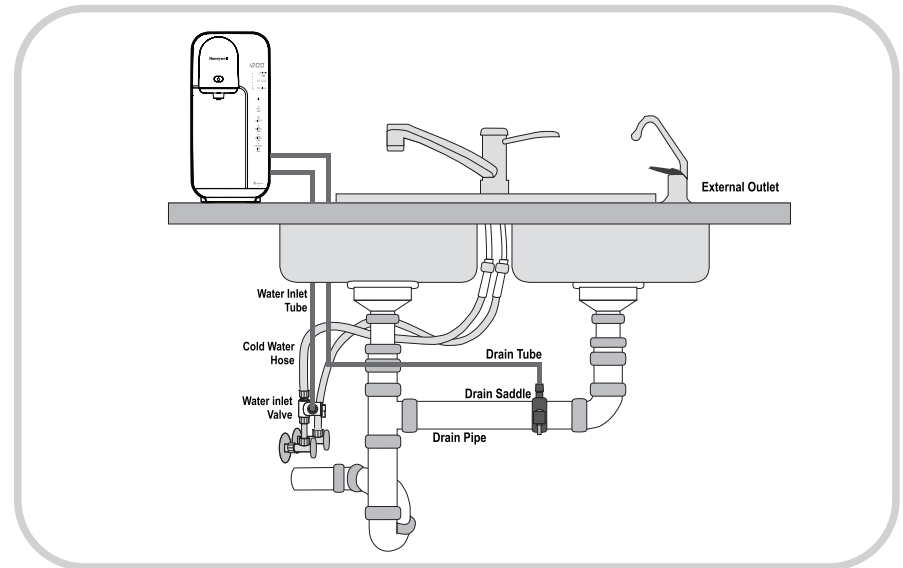
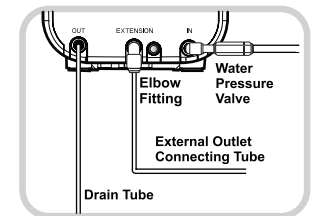
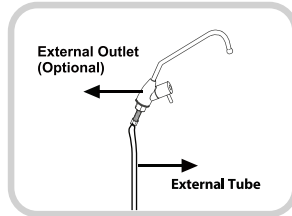

Fig. 4
Fig. 5
Fig. 6
4. Use a drill with a 1/4" Drill Bit to drill a hole on one side of the Drain Pipe and attach the Drain Saddle using a Phillips screwdriver. (Fig. 4).
5. Using a knife or scissors cut a segment of the 1/4" Water Tube long enough to connect the Purifier to the Water Inlet Valve located under the sink. Leave a few additional inches of the tube to allow rotation of the unit when installing, maintaining or changing the filters. Connect one end of the Water Tube to the quick connector of the Water Inlet Valve. Connect the other end to the Water Pressure Valve of the Water Inlet (IN) located at the back of the unit (Fig. 4) (Fig. 5).
6. Using a knife or scissors (not included) cut a segment from the 1/4" Water Tube long enough to connect the Purifier to the Drain Saddle located under the sink. Leave a few additional inches of the tube to allow rotation of the unit when installing, maintaining or changing the filters. Connect one end of the Water Tube to the quick connector of the Drain Saddle. Connect the other end to the quick connector of the Elbow Fitting on the Water Outlet located at the back of the unit (Fig. 4) (Fig. 5).
7. Use the EXTENSION option on the back of the unit if you have an external outlet on the sink. An additional water valve may be required (not included). Proceed the same way as described in steps 5 to 6 using the EXTENSION outlet at the back of the unit. (Fig. 4) (Fig. 5) (Fig. 6).